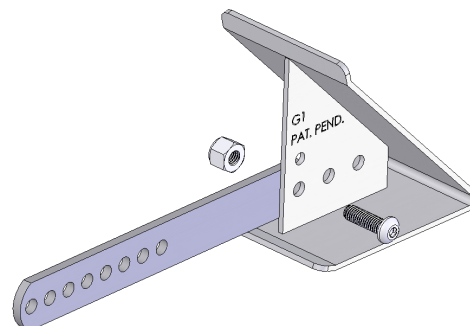

Figure 2
2. Using the same nut and bolt, install the extra single arm onto that same wedge. The bolt should go through the end of the arm with the single hole. See Figure 2.